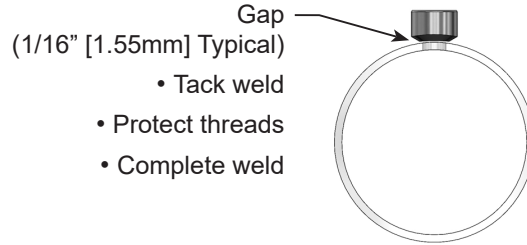

Figure 4. Weld Gap
- Using the appropriate weld gap (1/16" [1.5mm] typical), tack weld the mounting flange into position (see Figure 4).